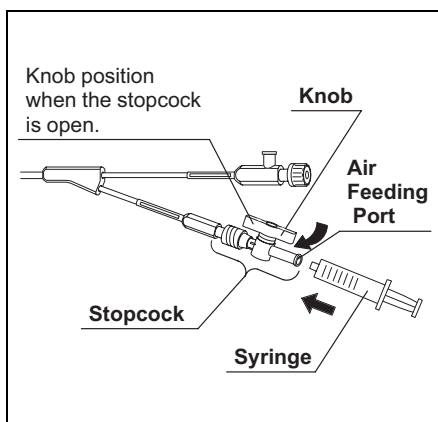

Figure 4.1
1. Confirm that the stopcock knob is positioned as shown in Figure 4.1.
2. Connect the sterile syringe onto the air feeding port (see Figure 4.1).
5. Confirm that the stopcock is open (see Figure 4.1).
2. Confirm that the stopcock is open (see Figure 4.1).